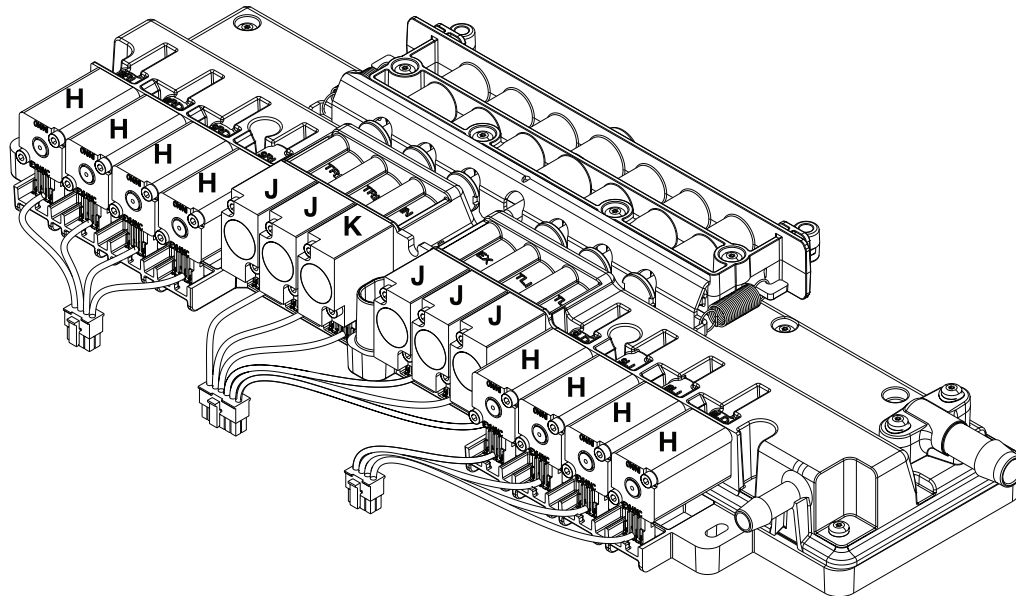

Figure 1-19: Solenoid valve
3. Using the supplied torque driver, remove the two screws that secure the solenoid valve (H, J, or K) to the manifold assembly (Figure 1-19 on page 1-43). Save the screws.